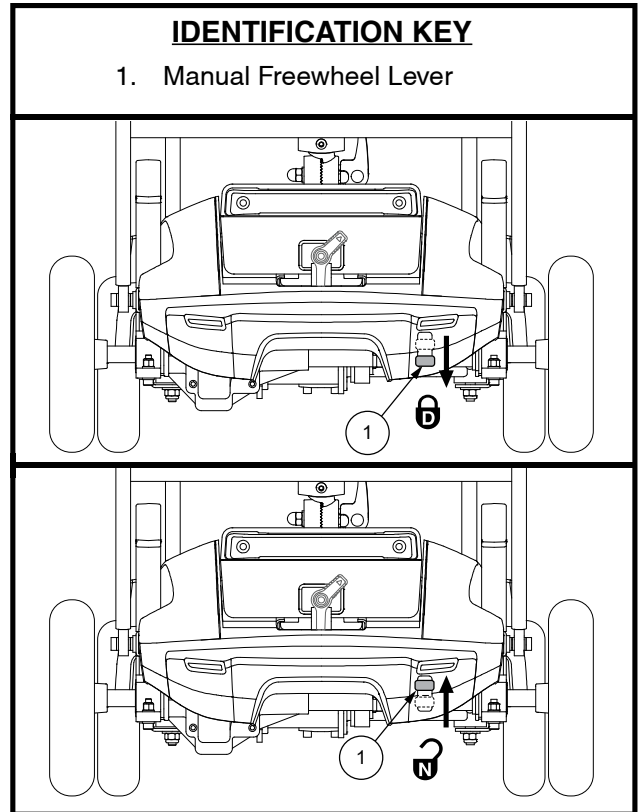

Figure 6. Freewheel Lever
3. Locate the manual freewheel lever on the rear of the scooter. See figure 6.
3. Ensure that the scooter is in drive mode. See figure 6.